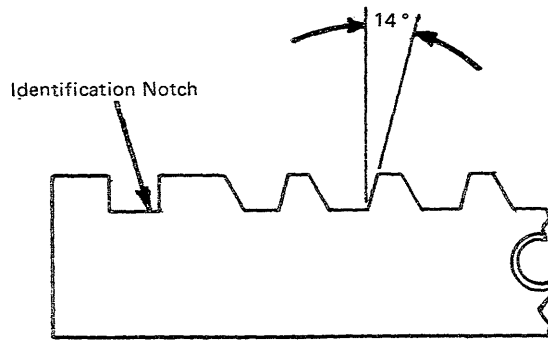

Figure 1-4. Notched Escapement Rack
3.11 The angle of inclination for the Selectric I/O production escapement rack teeth has been reduced to 14° . This change increases the escapement pawl to escapement rack holding angle. The 14° escapement rack has a milled notch (Figure 1-4) on the left end.